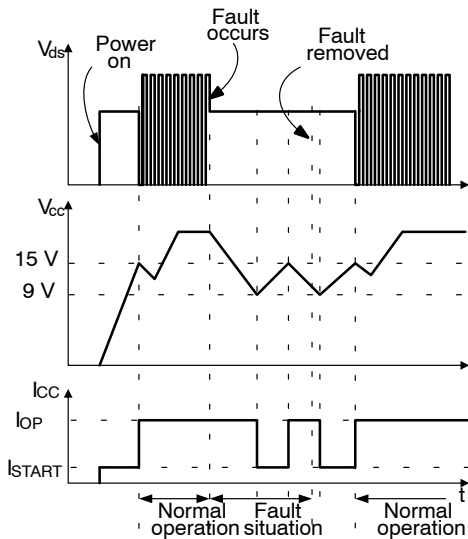

Figure 33. Auto Restart Mode Protection
- *Auto-Restart Mode Protection:* Once the fault condition is detected, switching is terminated and the SENSEFET remains off. This causes V_{CC} to fall. When V_{CC} falls to the under voltage lockout (UVLO) stop voltage of 9 V, the protection is reset and the FSCQ series consumes only startup current (25 mA). Then, the V_{CC} capacitor is charged up, since the current supplied through the startup resistor is larger than the current that the FPS consumes. When V_{CC} reaches the start voltage of 15 V, the FSCQ series resumes its normal operation. If the fault condition is not removed, the SENSEFET remains off and V_{CC} drops to stop voltage again. In this manner, the auto-restart can alternately enable and disable the switching of the power SENSEFET until the fault condition is eliminated (see Figure 33).